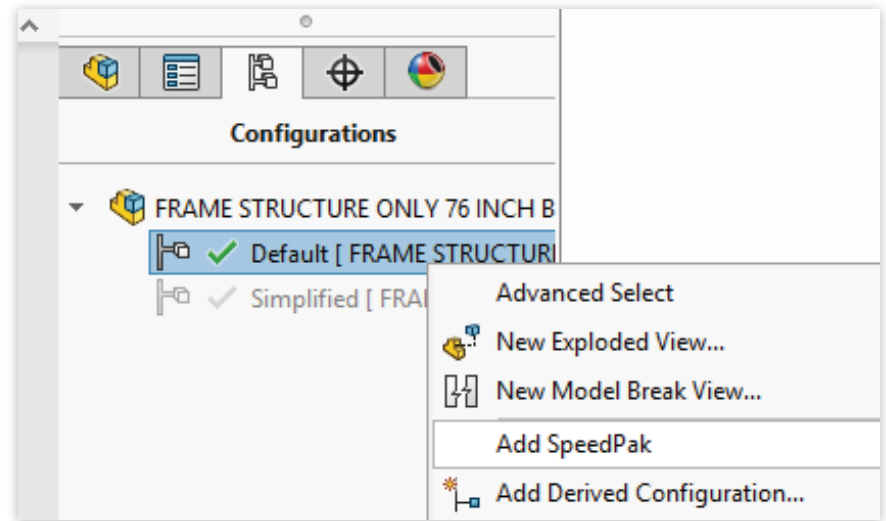

Fig. 17
- To create a SpeedPak version of an assembly, go to the **Configuration Manager** tab in the assembly browser. See Fig. 17.